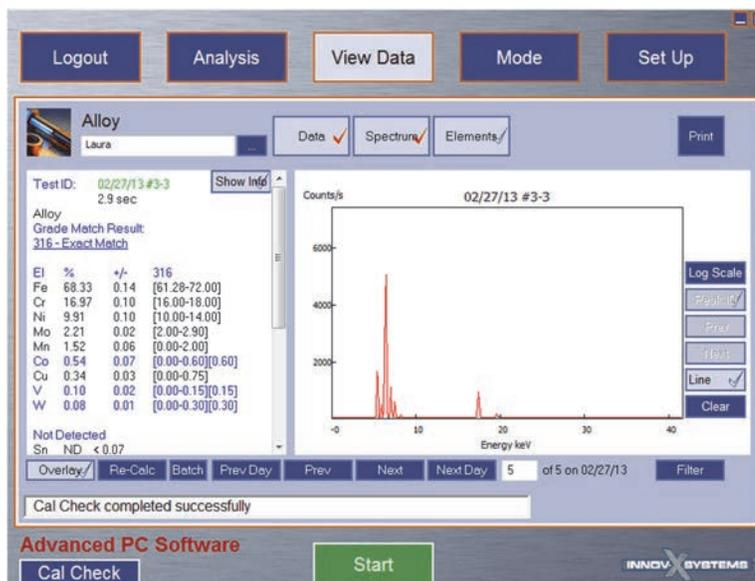

Figure 8-1 The View Data window
- ◆ To display the **View Data** window, click the **View Data** button (see Figure 8-1 on page 105).